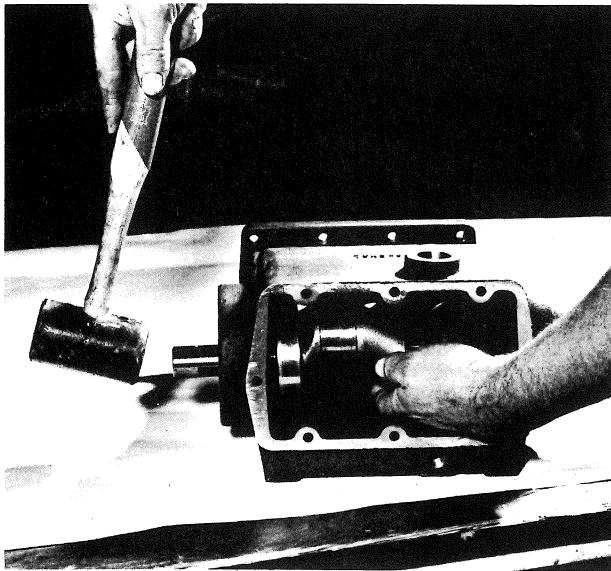

Fig. 3
To remove crankshaft (8) the plungers and fluid end must first be removed, as explained earlier. Drain oil from crankcase and remove rear cover (6). Remove retainer ring (11) from bearing bore. The connecting link caps should be taken off and the free links pushed toward the water end as far as possible. BEFORE REMOVAL, BE SURE TO NOTE THE MARKINGS ON THE CONNECTING LINKS AND CAPS. THESE PARTS ARE NOT INTERCHANGEABLE AND MUST BE REASSEMBLED IN THEIR ORIGINAL POSITIONS. The crankshaft (8) bearings (9) and bearing cap (13) can now be removed by tapping with a hammer against a block of wood on one end of the crankshaft. The crankshaft should be supported so that as the bearings leave the bores the crank does not drop and damage a crank pin. See Fig. 3. Do not remove bearing (9) from crankshaft (8) unless replacement is necessary. After removing crankshaft, the links and crosshead can be pulled out the crankcase opening.